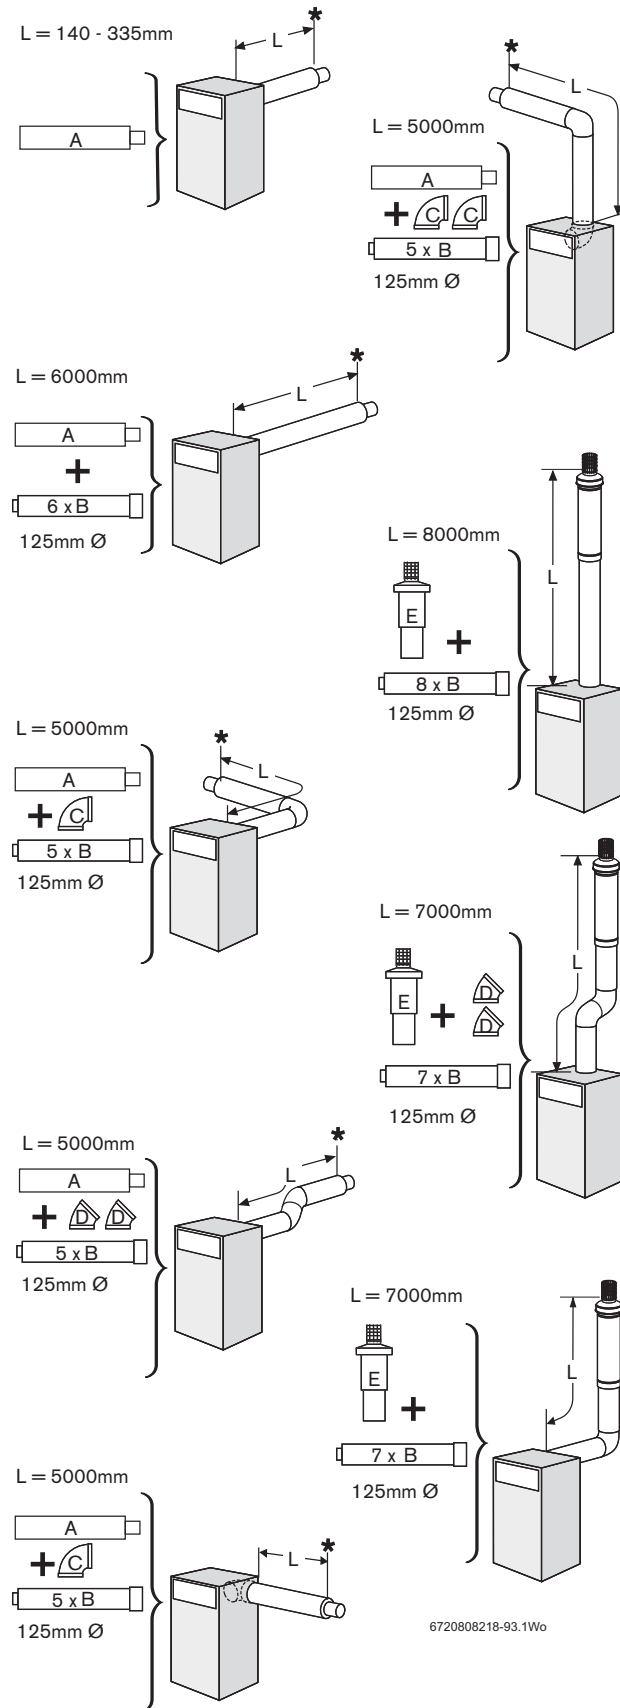

Fig. 27 Room sealed flue options
Figure 27 shows the components used and the maximum flue length (L) for each flue configuration.